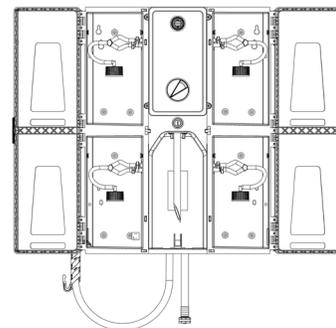

Figure 1
5. Unlock and open doors to 4 Button Chemical Dispenser. (Figure 1)